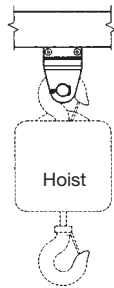

FIGURE 17
2. The hoists used with the LodeRail systems are the hook mounted type (see *Figure 17*). The hoist